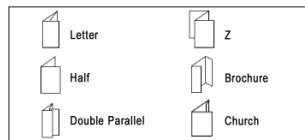
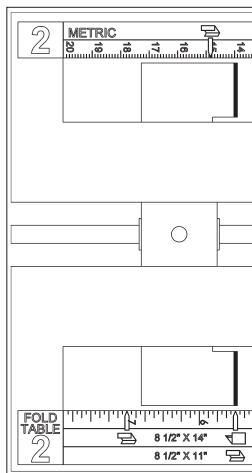
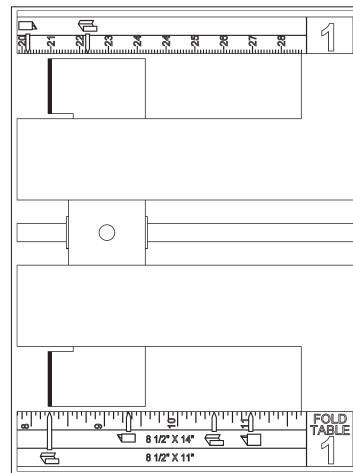

Fig. 9
Fig. 10
Fig. 11
Before attempting to set-up a fold, you should familiarize yourself with the six designated fold style icons provided on the rulers located on each fold table (Figure 9). These icons are arranged in columns on the feed table rulers that represent the three most common paper sizes (Figure 10 and Figure 11).
3. Using the fold table rulers for reference (See Figure 10 & Figure 11), move the paper stop in or out with the corresponding arrow key. Please note that the arrow keys work the paper stops at two-speeds. If the key is pressed momentarily or jogged repeatedly, the paper stop moves at the slow speed. If the key is held longer, the paper stop will shift into the faster speed. This is helpful when moving the stops longer distances.